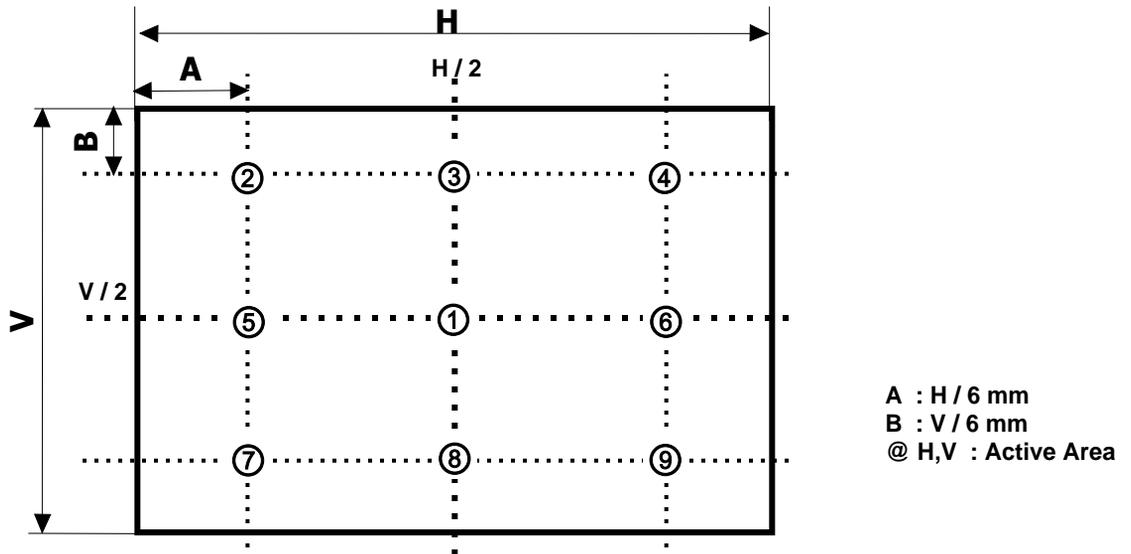

FIG. 2 9 Points for Luminance Measure
2. Surface luminance are determined after the unit has been 'ON and 1 Hour after lighting the backlight in a dark environment at $25 \pm 2^\circ\text{C}$. Surface luminance is the luminance value at center 1-point across the LCD surface 50cm from the surface with all pixels displaying white. For more information see the FIG. 2.
For more information, see the FIG. 2.